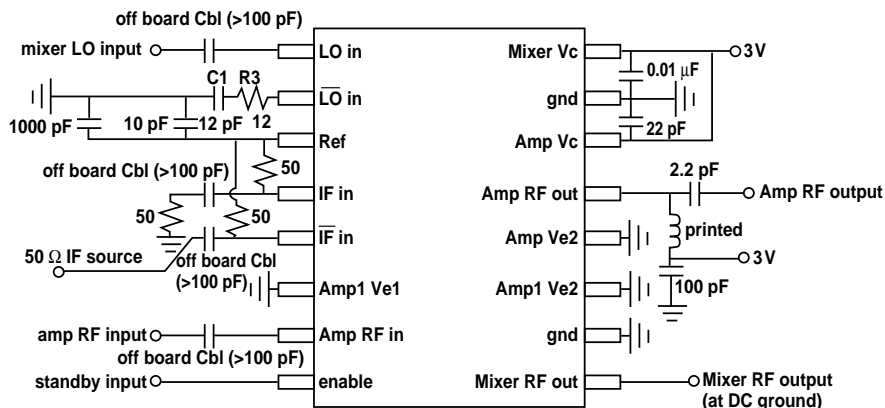

Figure 11. Test Board Configuration.
Circuit of Figure 11 with 1K Pull up Resistors for the IFs and LO and RF Ports Terminated in 50 Ω .
- [1] Circuit of Figure 11 with IF and RF Ports Terminated in 50 Ω .
[2] As above but LO RC combination in Figure 11 changed from 12 Ω and 12 pF to 0 Ω and 2.7 pF (recommended use for >1.75 GHz).
Circuit of Figure 11 with IF and LO Ports Terminated in 50 Ω .